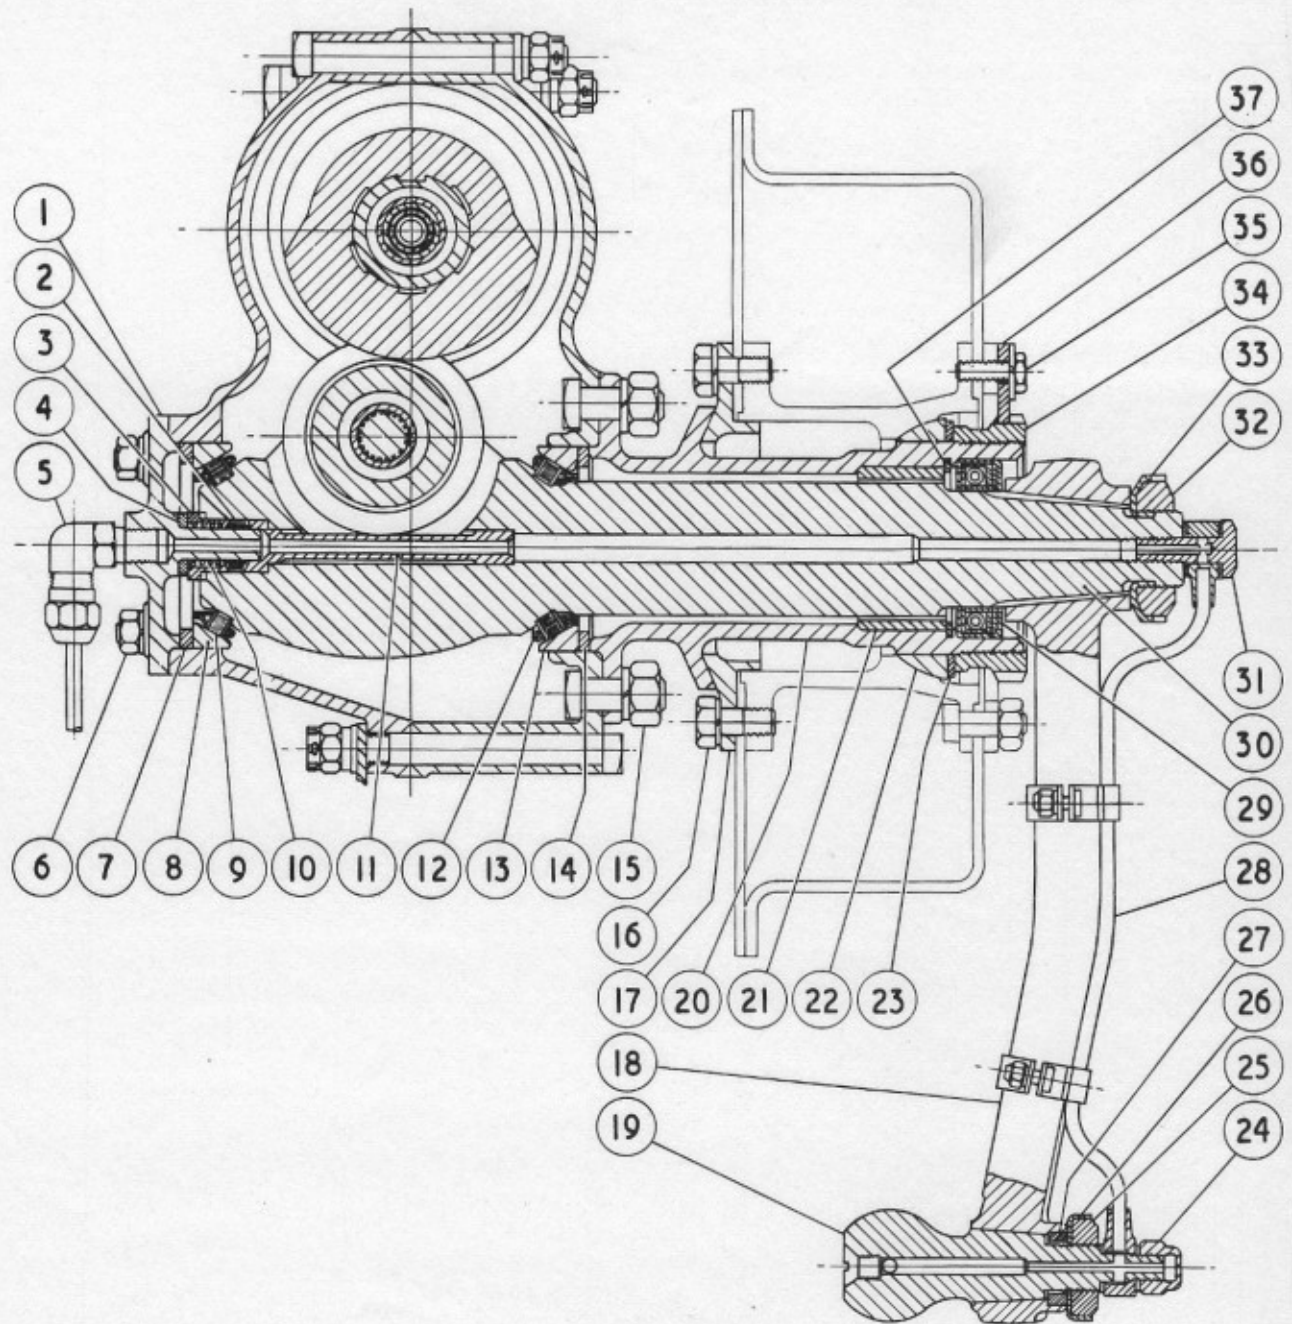
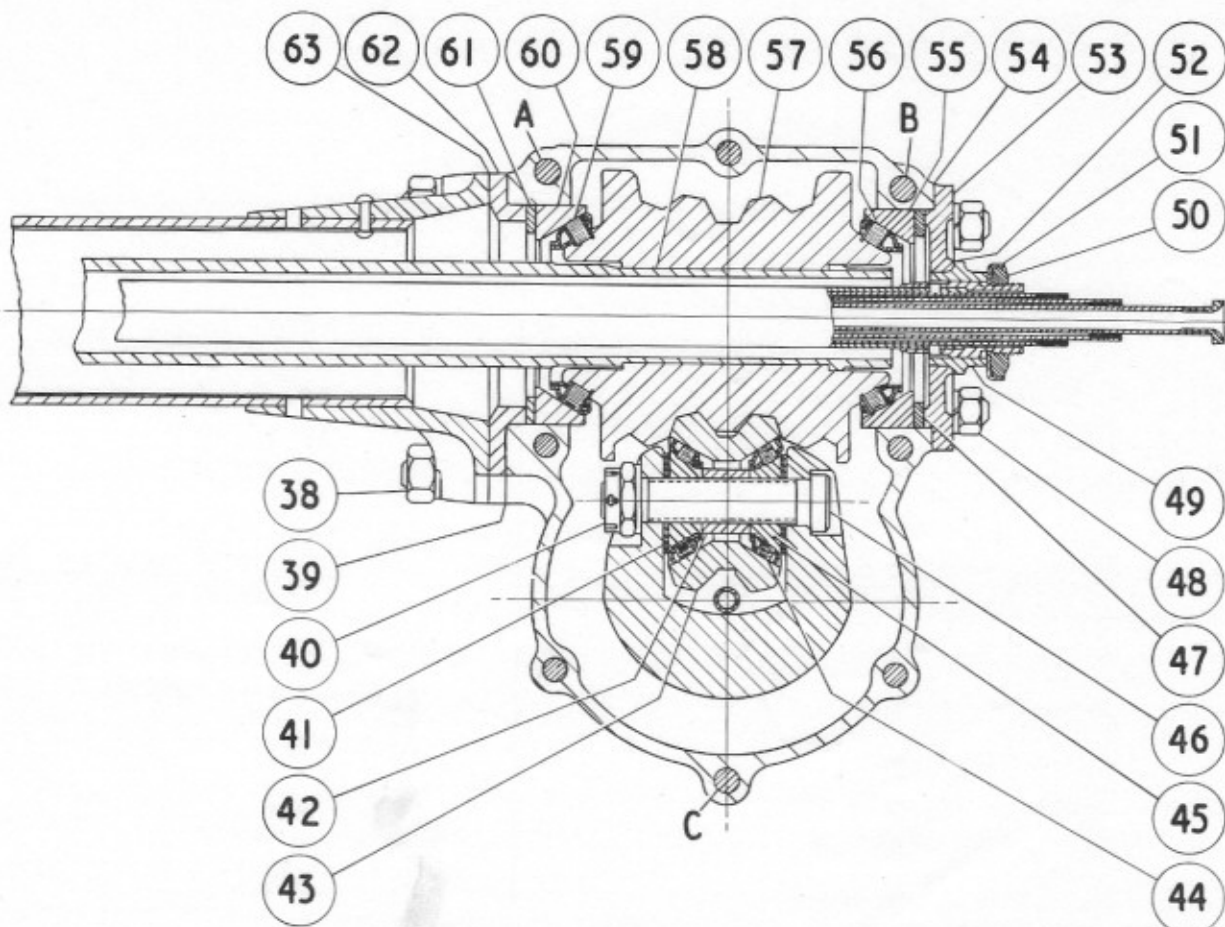

FIG. 1. SECTION - ROCKING SHAFT.
FIG. 2. SECTION - STEERING CAM & ROLLER.
- (vi) Bend back tabs of lockwasher (51, Fig.2) and unscrew nut (50) until it is flush with the thread of the stationary tube.
- (viii) Using an aluminium drift, give the nut 50, (already slackened back) a few sharp taps towards the steering box to loosen the stationary tube from its tapered seating in the guide (49) to permit at a later stage, the withdrawal of the control tube assembly. Remove the nut and lockwasher. A receptacle should be placed at the bottom of the steering box to catch the oil.
- (ix) Remove the junction screw (31 Fig.1) from the rocking shaft and the cap nut (24) from the ball end pin at lower end of pendulum lever and then remove the oil feed pipe (28) from the lever.
- (x) Remove the nut (32) securing the pendulum lever to the rocking shaft (30). Normally it is not necessary to disconnect the pendulum lever from the side steering tube.
Notation for Fig.2.
- (iii) Remove the bottom end cover (53 Fig.2) and the adjusting washer (47) and tie the washer to the cover.
- (iv) Remove the four nuts (38) securing the steering column to the box, pull the box away from the column about 3" (75 mm) and detach the flange (62) from the lower end of the column.
- (v) Pull the halves of the box apart and collect the roller race (55) and the roller bearing (56) from bottom of box and also tie them to the bottom end cover.
- (vi) Withdraw the cam tube (58) from the steering column. Collect the flange (62), the adjusting washer (61), the roller race (60), and the roller bearing (59), and tie these parts together.
- (vii) Remove the rocking shaft. Collect the gland washer (4). Remove from inner end of rocking shaft, the gland spring (10), the gland bush(3), and the gland packing (2).
- (viii) Remove the end cover (1), the adjusting washer (7), the roller race(8), and tie these parts and the roller bearing (9) to the end cover.
- (ix) Undo the six nuts (15) and remove the support sleeve (20). Remove the adjusting washer/s (14), the roller race (13), and tie these parts and the roller bearing (12) to the sleeve.
- a) The cam roller assembly is of the roller bearing type as shown in Fig.2. (See Item 44). This must be removed and replaced by a cam roller assembly of the ball bearing type as shown in Fig.3.